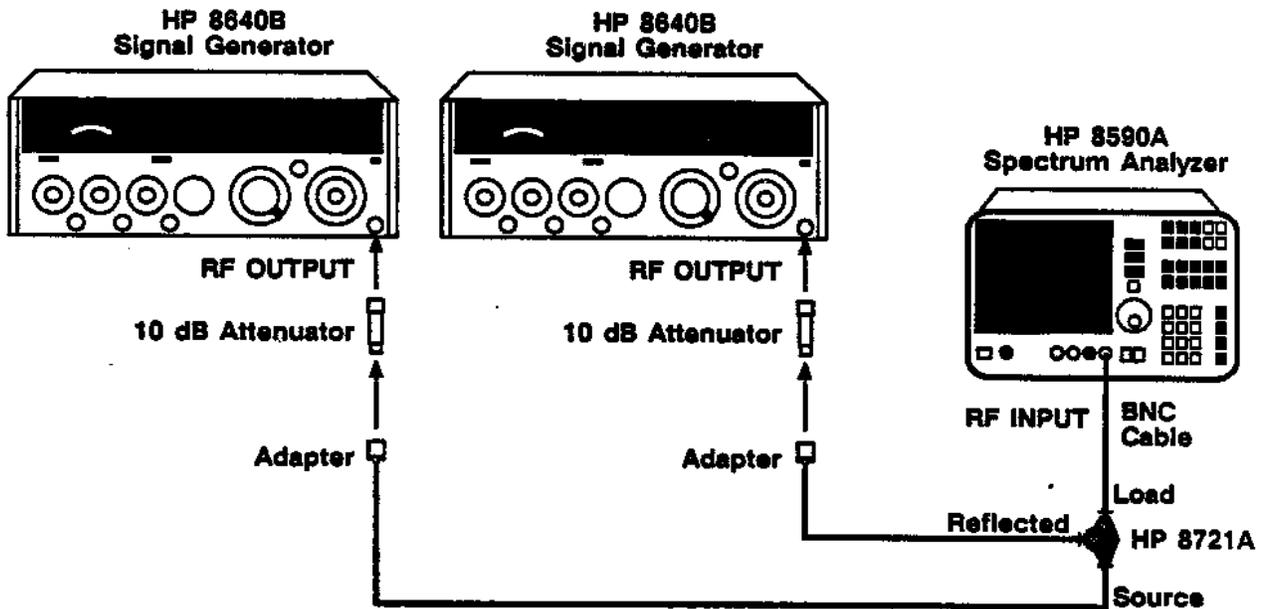

Figure 1-4. Spurious Response—Third-order Intermodulation Distortion Test Setup
- Connect the equipment as shown in Figure 1-4. If your analyzer has Option 001 (75-ohm RF input), connect the 75-ohm side of the minimum loss adapter to the 75-ohm cable, connect the other end of the 75-ohm cable to the RF input of the analyzer, and connect the 50-ohm side of the minimum loss adapter to the Directional Bridge.